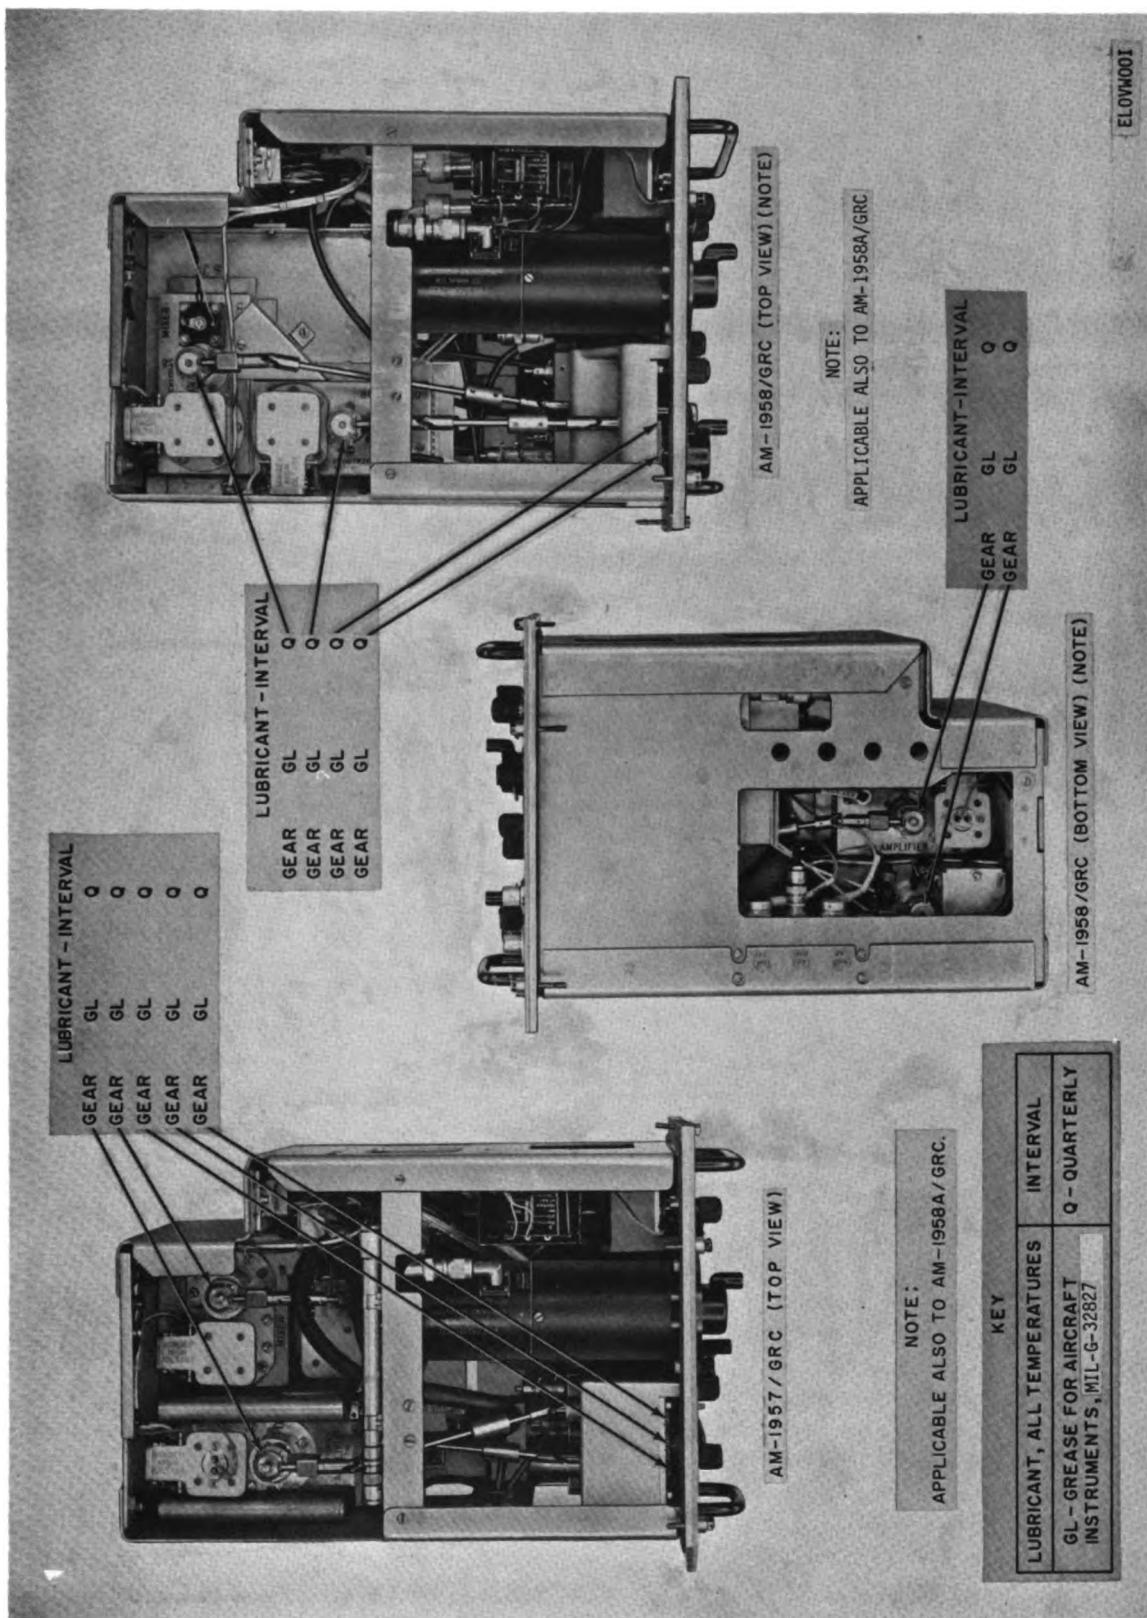

Figure 5-1. Amplifier-Oscillators AM-1957/GRC and AM-1958/GRC, maintenance points.
*a. Amplifier-Oscillators AM-1957/GRC and AM-1958(\*)/GRC.* Loosen the front panel mounting screws on the AM-1957/GRC or the AM-1958(\*)/GRC and remove it from the T-893(P)/GRC. Locate all the points to be lubricated (fig. 5-1) and clean them with a brush dipped in cleaning compound. Use a clean brush to apply a light film of grease (GL) to the points indicated. Replace the components and tighten the mounting screws.